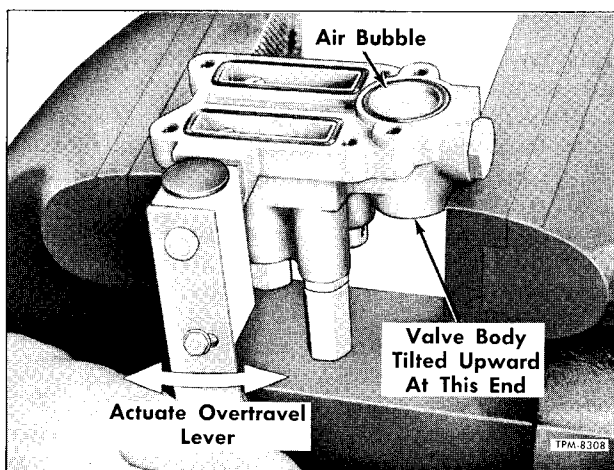

Figure 31—Venting Air From Silicone Fluid
2. Pour 5.5 cc \pm 0.25 cc of Silicone fluid (750 Centistokes viscosity at 25°C) into delay piston bore. With valve body tilted slightly as shown in figure 31 carefully operate overtravel lever fore and aft to vent air from fluid. When all air has been expelled from piston pin cavity, check fluid level using depth gauge as shown in figure 32.